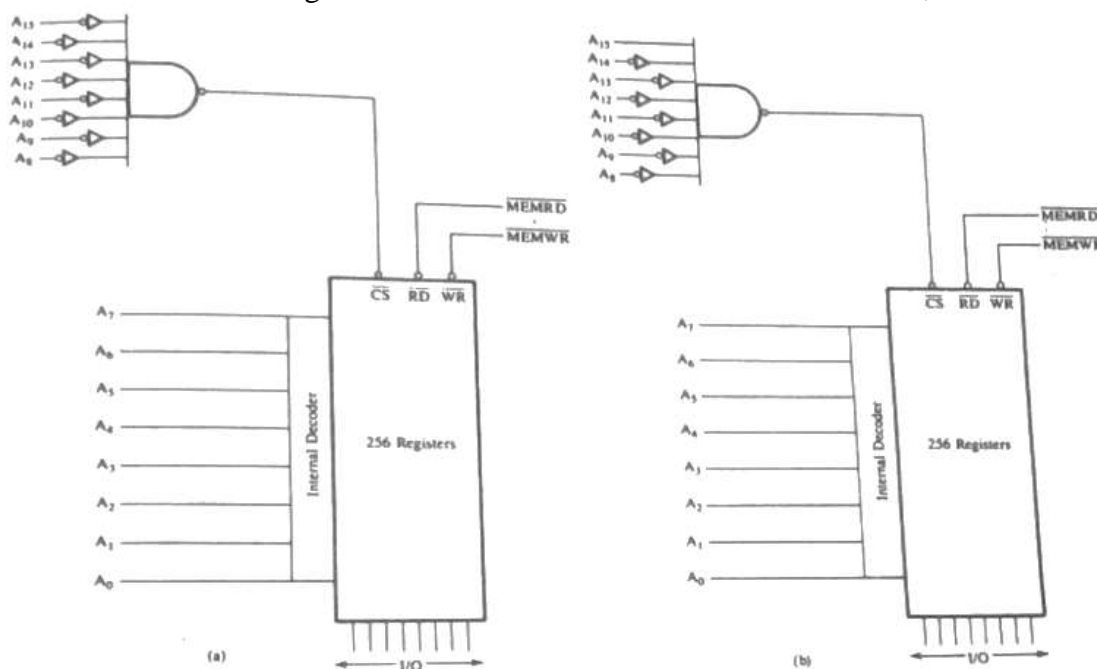

FIGURE 9 Memory Maps: 256 Bytes of Memory with range a) from 0000H to 00FFH b)from 8000H to 80FFH
Illustrate the memory address range of the chip with 256 bytes of memory, shown in Figure 9(a), and explain how the range can be changed by modifying the hardware of the Chip Select CS line in Figure 9(b).
Figure 9(a) shows a memory chip with 256 registers with eight I/O lines: the memory size of the chip is expressed as 256 x 8. It has eight address lines (A7-A0), one Chip Select signal (CS) (active low), and two control signals Read (RD') and Write (WR'). The eight address lines (A7-A0) of the microprocessor are required to identify 256 memory registers. The remaining eight lines (A15- A8) are connected to the Chip Select (CS') line through inverters and the NAND
gate. The memory chip is enabled or selected when CS' goes low. Therefore, to select the chip, the address lines A15-A8 should be at logic 0. which will cause the output of the NAND gate to go low. No other logic levels on the lines A15-A8, can select the chip. Once the chip is selected (enabled), the remaining address lines A7-A0, can assume any combination from 00H to FFH and identify any of the 256 memory registers through the decoder. Therefore, the memory addresses of the chip in Figure 9(a) will range from 0000H to 00FFH, as shown below.
The memory address range in Figure 9(b) will be 8000H to 80FFH. The memory chips in Figures. 9(a) and (b) are the same chips. However, by changing the hardware of the Chip Select logic, the location of the memory in the map can be changed, and memory can be assigned addresses in various locations over the entire map of 0000H to FFFFH.